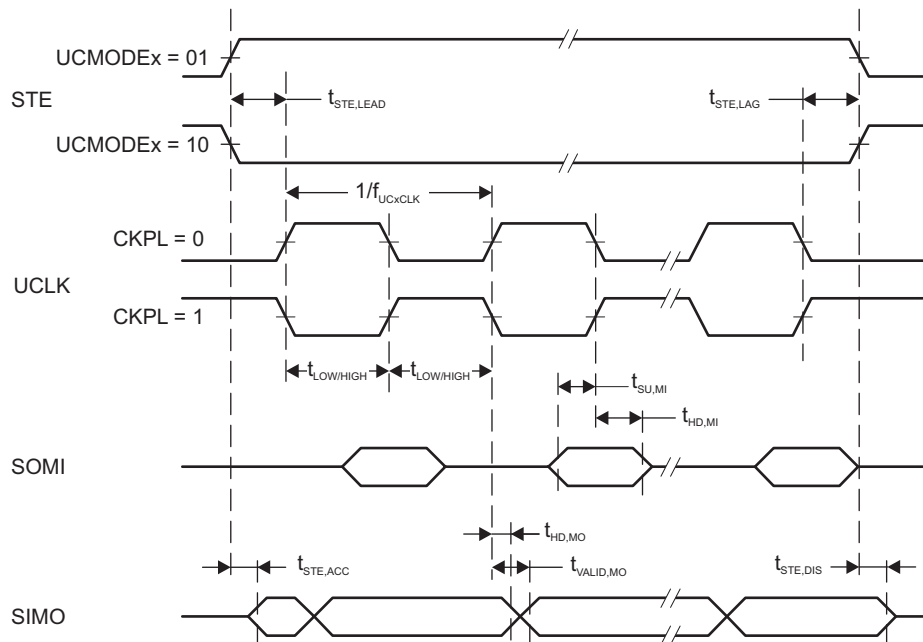
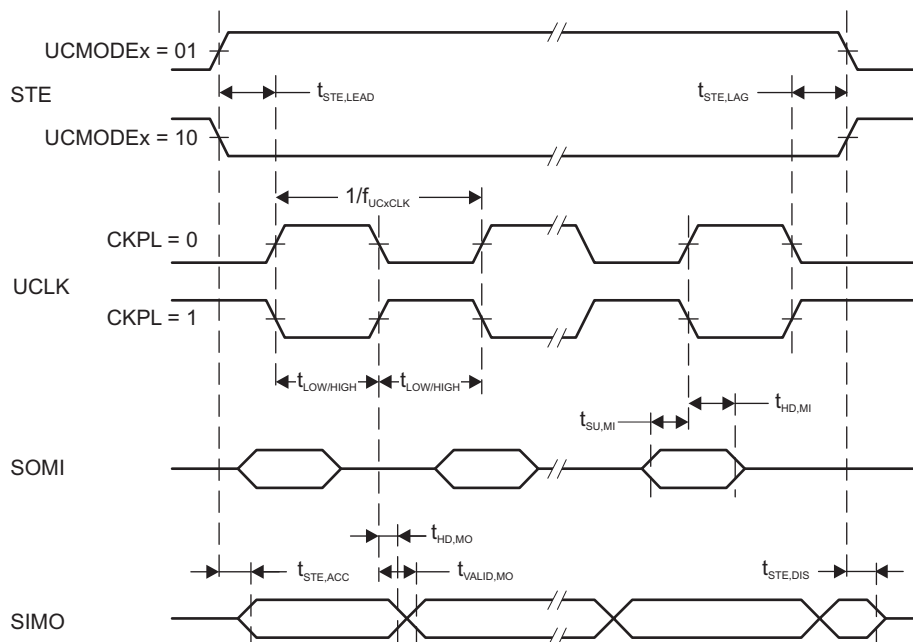

Figure 5-14. SPI Master Mode, CKPH = 0
Figure 5-15. SPI Master Mode, CKPH = 1
- (1) $f_{UCxCLK} = 1 / 2t_{LO/Hi}$ with $t_{LO/Hi} = \max(t_{VALID,MO(eUSCI)} + t_{SU,SI(Slave)}, t_{SU,MI(eUSCI)} + t_{VALID,SO(Slave)})$. For the slave parameters $t_{SU,SI(Slave)}$ and $t_{VALID,SO(Slave)}$, see the SPI parameters of the attached slave.
- (2) Specifies the time to drive the next valid data to the SIMO output after the output changing UCLK clock edge. See the timing diagrams in Figure 5-14 and Figure 5-15.
- (3) Specifies how long data on the SIMO output is valid after the output changing UCLK clock edge. Negative values indicate that the data on the SIMO output can become invalid before the output changing clock edge observed on UCLK. See the timing diagrams in Figure 5-14 and Figure 5-15.